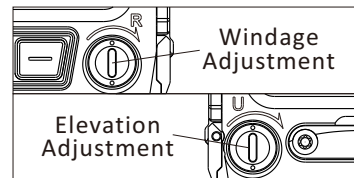

Fig 6
2) The elevation adjustment is on the right side of the sight (battery side). The windage adjustment is on the left side of the housing (button side). Adjustment can be performed using the supplied tool (see Fig6).